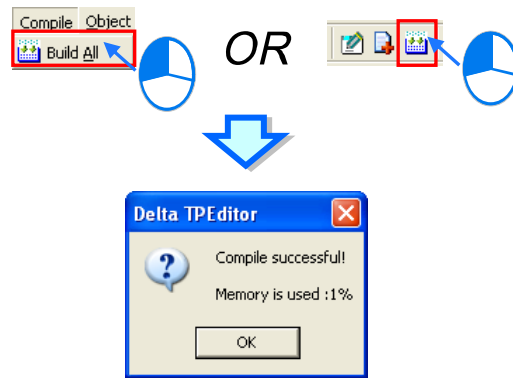

Figure 6-22 Compiling a project
- Step 6: After the users click **Build All** on the **Compile** menu or  on the standard toolbar, the result of compiling the project created will be displayed, as shown in Figure 6-22.